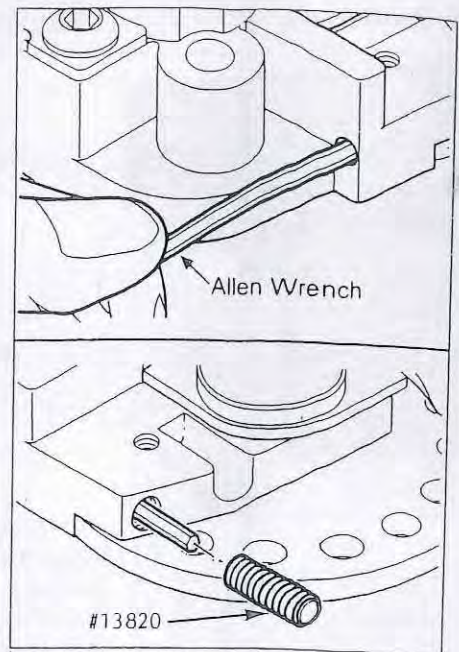

Fig. 11
2. Using a 5/64" Allen wrench, remove the old Station 2 adjustment screw and replace it with the new one (#13820). To do this, insert the Allen wrench into the hole on the back side of the primer feed body, Fig. 11. Engage the set screw and turn it clockwise until it comes out of the other side, Fig. 11. Install the new set screw by reversing these steps.